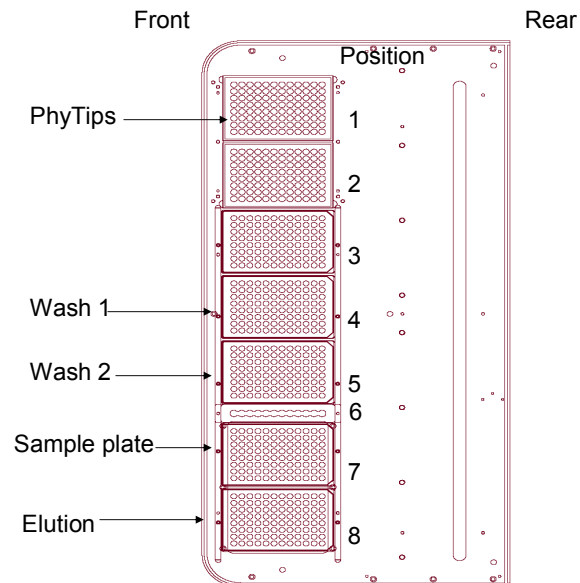

Figure 1 Standard Method for Capture, Purify & Enrich
*Figure 1* below is an example of a standard method (without chiller) of Capture, Purify, Enrich using IMAC (Ni-NTA) PhyTip columns for one row of 12 x 200  $\mu$ L samples. For information on configuration of the instrument with and without chiller, see page 29.